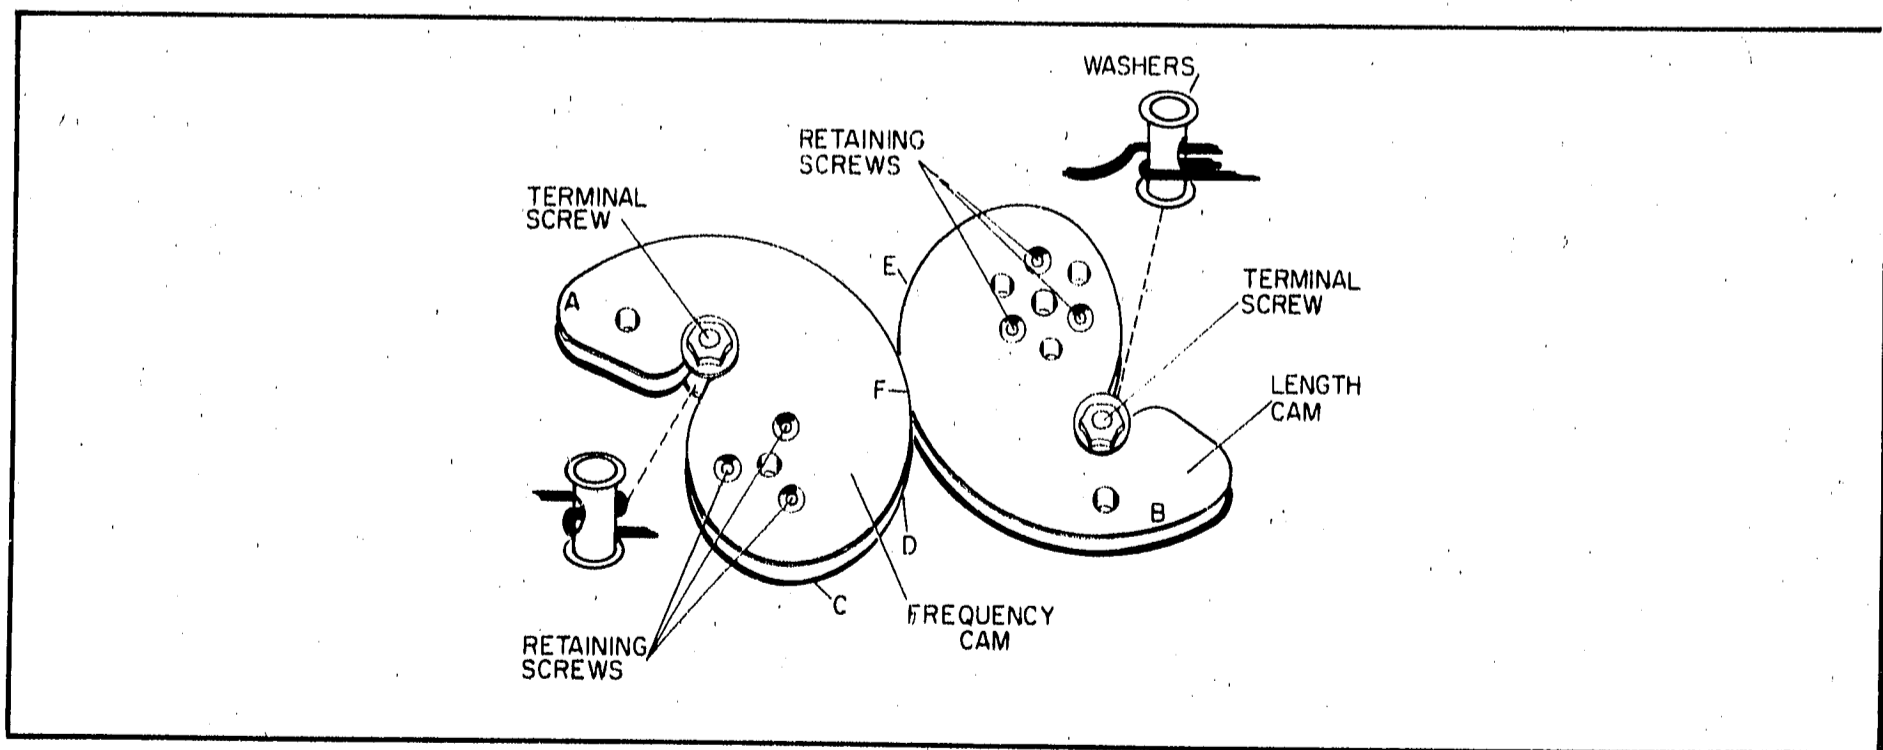

Figure 5-13. Exploded View — Cam Assembly
k. Slide cable through one terminal screw so that cable is secured to terminal screw as shown in Figure 5-13, for the Frequency Cam, and install terminal screws on Frequency Cam.
Each cam as shown in Figure 5-13 has two lips along which the cable should travel, one cable must travel along the upper lip of both cams and one cable must travel along the lower lip of both cams.
Slide cable ends through second terminal screw so that cable is secured to terminal screws as shown in Figure 5-13, for the Length Cam.